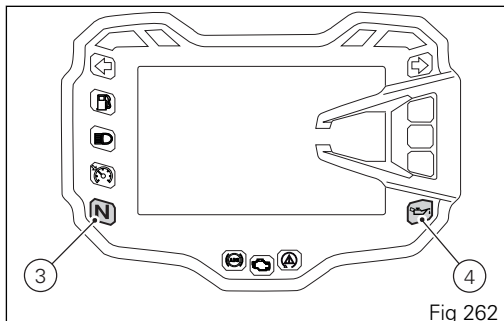

Fig 262
The red oil pressure warning light (4, Fig 262) should go out a few seconds after the engine has started. The engine will shut off by turning the red button (1) on the handlebar to RUN OFF. To turn on the "Hands free" system and all electronic onboard systems, refer to page 285 "Hands Free System".